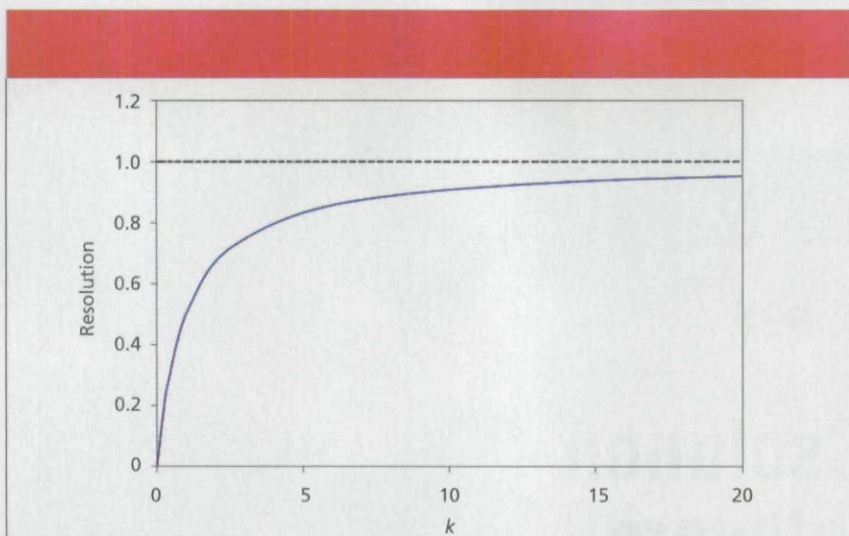

Figure 1: Relationship between resolution and retention. From equation 1, R_s is plotted against $k/(1+k)$.
To get the "best" chromatography, we strive for $2 < k < 10$, but this often is not possible, so $1 < k < 20$ generally is acceptable. When k is in one of these ranges, we'll usually get the best separation, but this is not guaranteed. One of the important reasons we would like $k > 2$ is that resolution is less susceptible to small fluctuations in mobile phase concentration. This is illustrated in Figure 1 and Table I.
In Figure 1, the influence of retention (term *i*, equation 1) is plotted against resolution. If k is infinity, term *i* approaches 1.0, so this is shown as the maximum possible resolution by the dashed line in Figure 1. I like to think of the influence of k on R_s in three ways.
First, let's look at getting the maximum power or leverage out of k as a variable to obtain resolution. If $2 < k < 10$, we have achieved 70–90% of the possible resolution by adjusting k (see Figure 1 and column 2 of Table I). This is a pretty good return on our investment
* Surrogate for resolution in Figure 1.
Second, we can consider the susceptibility of a method to small errors in mobile phase composition. For example, if we use a 1% error in mobile phase organic for comparison, we can see that larger k -values are less susceptible to changes in resolution for small changes in percent organic (see Figure 1 and column 3 of Table I). That is, when compared to the error at $k \approx 10$ (0.85%), $k \approx 2$ has about three times the error and $k \approx 0.5$ is more than seven times the error, with a 6.3% change in resolution for a